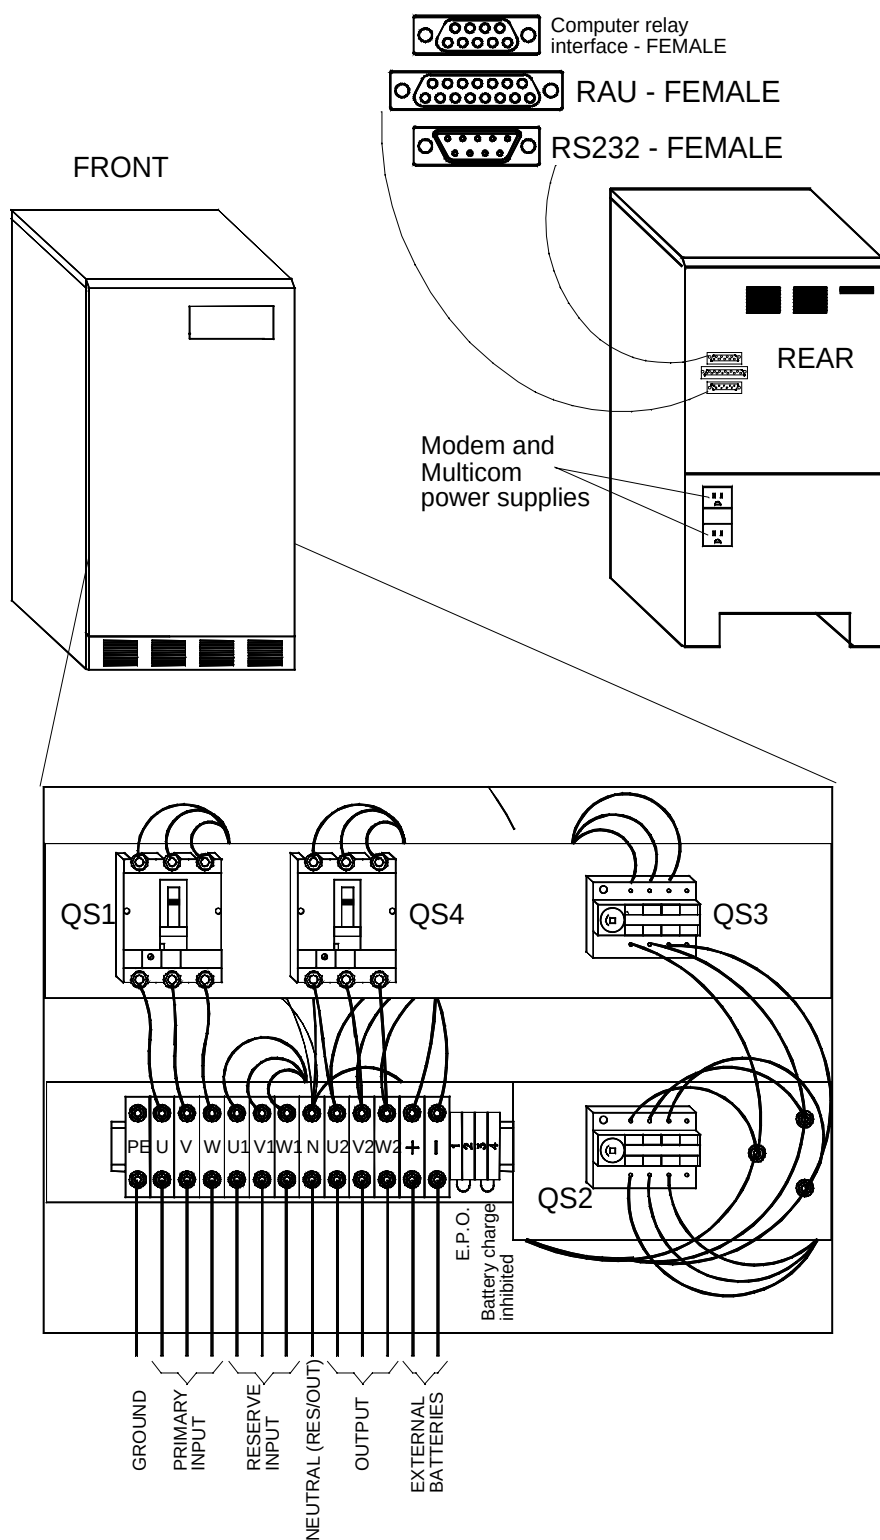

Figure 21 - 36 – 24/30/36kVA: Cable Connections
- c) This exposes the electrical terminal rail, see Figure 21
- This exposes the electrical terminal rail, see Figure 21